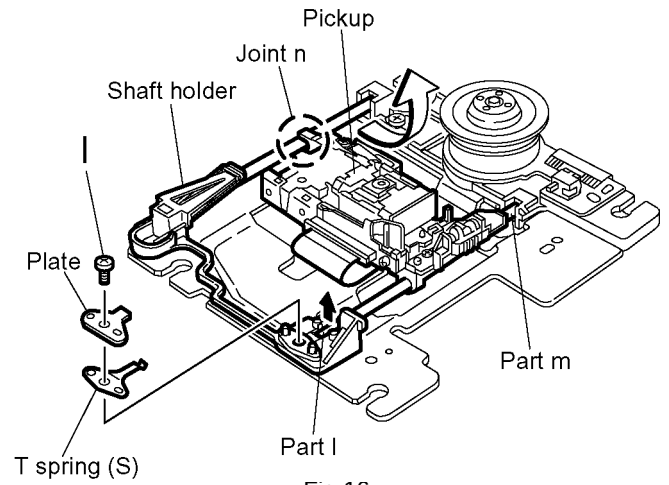

Fig.16
3.2.3 Removing the pickup (See Fig.16 and 18)